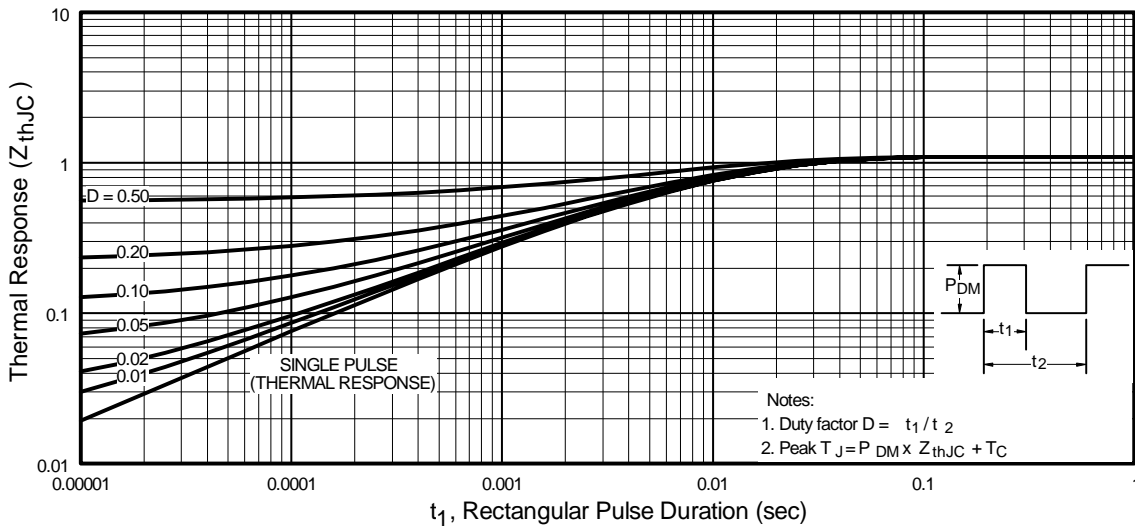

Fig 11. Maximum Effective Transient Thermal Impedance, Junction-to-Case
- ① Repetitive rating; pulse width limited by max. junction temperature. (See fig. 11)
- ② Starting $T_J = 25^\circ\text{C}$, $L = 7.1\text{mH}$